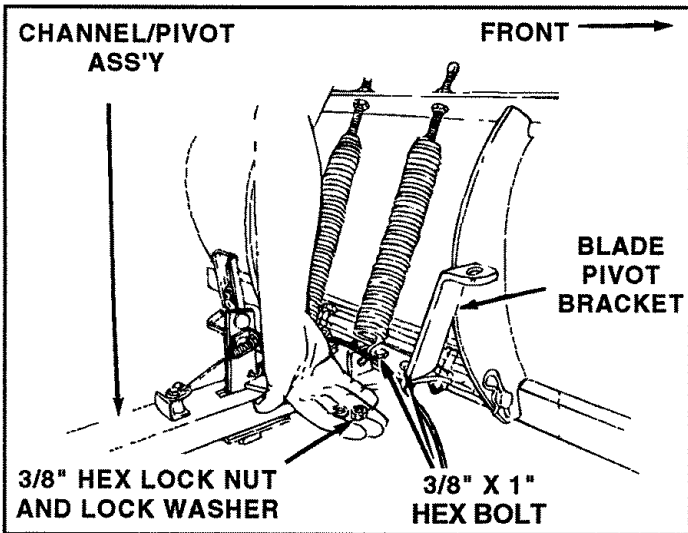

FIGURE 14
9. Assemble blade pivot bracket on to top right hand side of channel/pivot assembly. See figure 14. Assemble two 3/8" x 1" hex bolts down through bracket and plate and secure with two 3/8" lock washers and 3/8" hex lock nuts underneath.